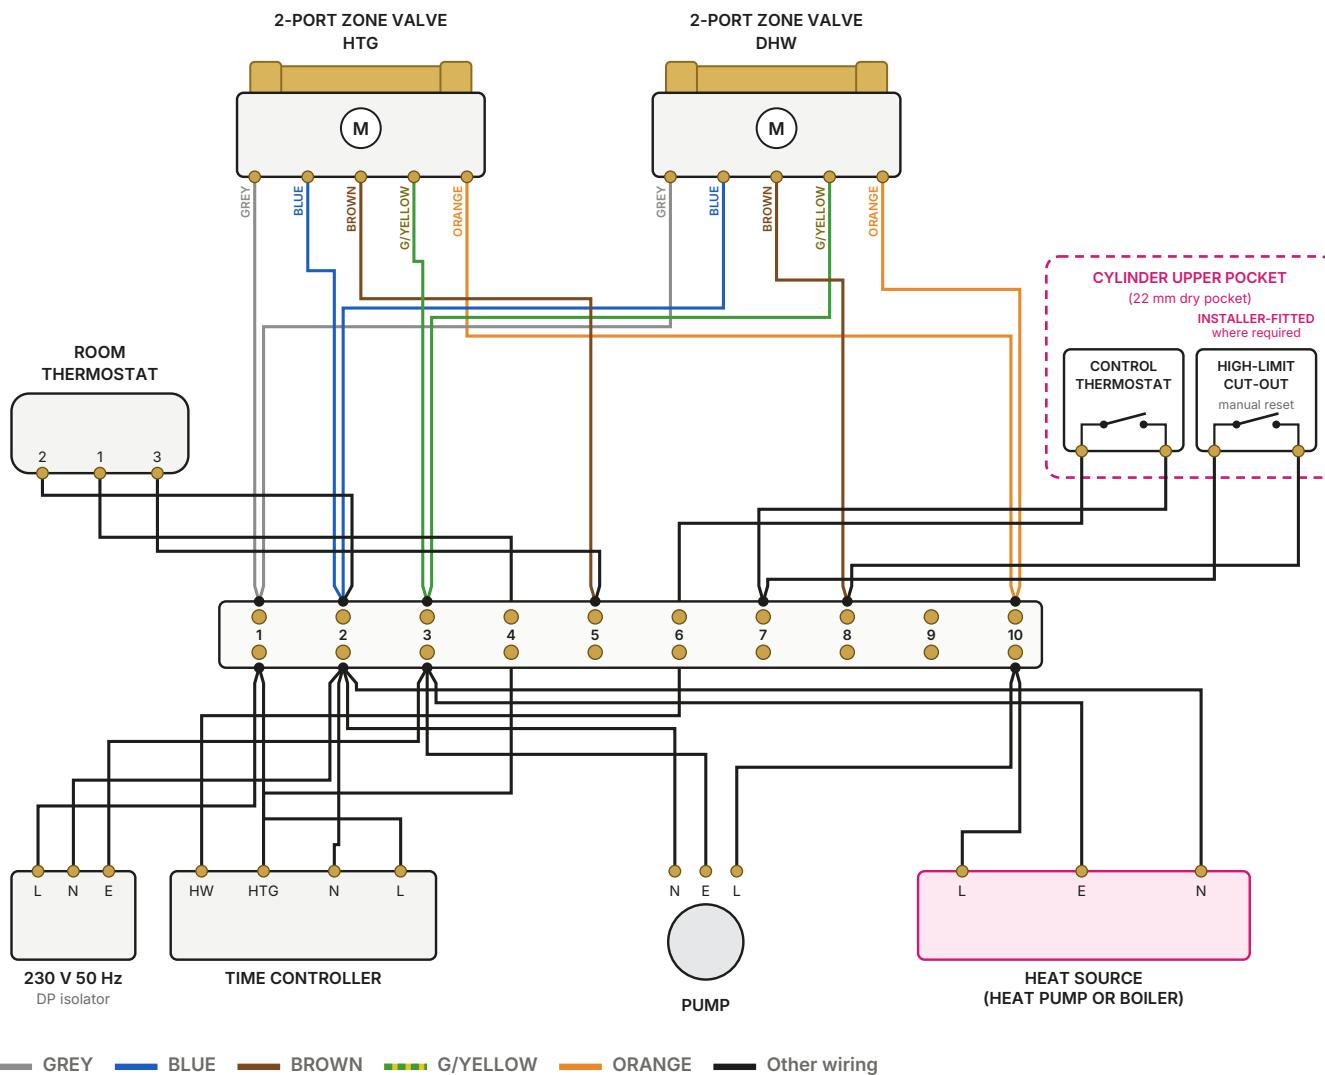

Figure 3 — S-plan arrangement with high-limit cut-out interlock: the high-limit cut-out is installer-fitted in the cylinder's upper pocket where required.
- **Primary zone valve:** a 2-port spring-return motorised zone valve (28 mm recommended), controlled by the heat pump and/or the control thermostat and, where fitted, the high-limit cut-out (Figure 3, Section 8). World Heat supplies the 22 mm dry pocket only: where a high-limit thermostat is required to meet Building Regulations G3 (for example when a boiler is connected), the installer fits it in the pocket provided.
Connect the coil to a pumped, correctly controlled primary circuit (gravity circulation is not suitable) and do not exceed the 3.0 bar maximum primary working pressure. The heat source must have thermostatic control and an independent means of stopping heat input when the high-limit cut-out, where fitted, operates: the 2-port zone valve wired as Figure 3 does this. World Heat supplies the 22 mm dry pocket only: where a high-limit thermostat is required to meet Building Regulations G3 (for example when a boiler is connected), the installer fits it in the pocket provided. Check it fails safe during commissioning.
Figure 3 is the wiring arrangement for this cylinder: an S-plan with two 2-port zone valves. The control thermostat is on the cylinder, in the upper pocket. Where a high-limit cut-out is required to meet Building Regulations G3 (Section 4), it is a thermostat the installer fits in the pocket provided. Where it is fitted, the control thermostat and the high-limit cut-out are wired in series, so both must be closed for the hot water zone valve to open; if the cut-out operates, the valve closes and its auxiliary switch stops the heat source's hot water call.
- The heat source controls and, where a high-limit cut-out is fitted, its shutdown are wired as Figure 3.